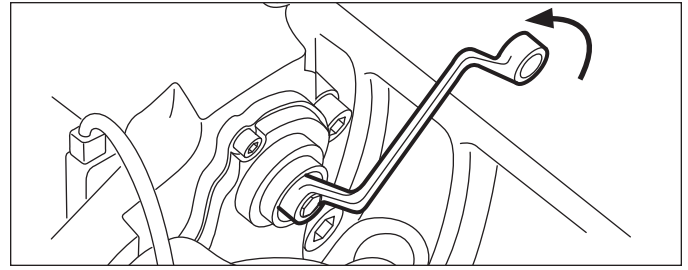

FIGURE 20 - BACKING-OFF (INCREASING) THE RUNNING CLEARANCE
4.2.2 Using a 10mm. six-point box wrench, turn the Shear Adapter (61) **counter-clockwise** and listen for the sound of 3 clicks as the mechanism backs-off (increases) the running clearance. Note: Do not use an open-ended wrench as this may damage the adapter. See Figure 20.
**CAUTION:** Never turn the adjuster (23) without the shear adapter (61) installed. The shear adapter is a safety feature and is designed to prevent excessive torque from being applied to the adjuster. The shear adapter will fail (by breaking) if too much torque is applied.